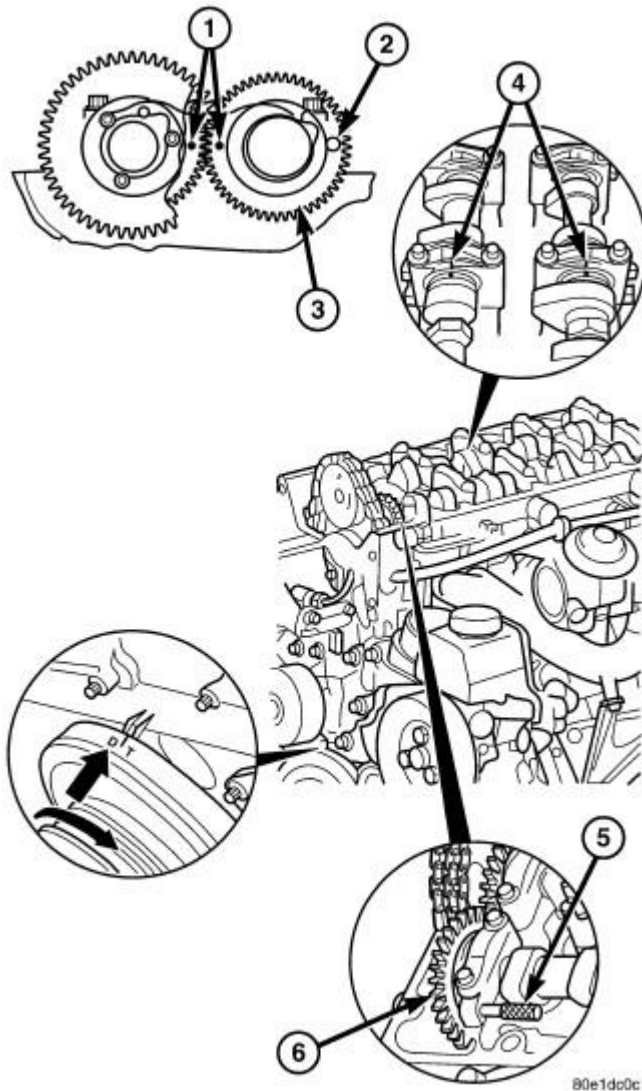

Fig. 102: Checking Camshaft Position - Typical
7. Insert the Camshaft Locking Pin 8929 (5) through first camshaft bearing cap into the hole in the left inlet camshaft sprocket. See **Fig. 102**.